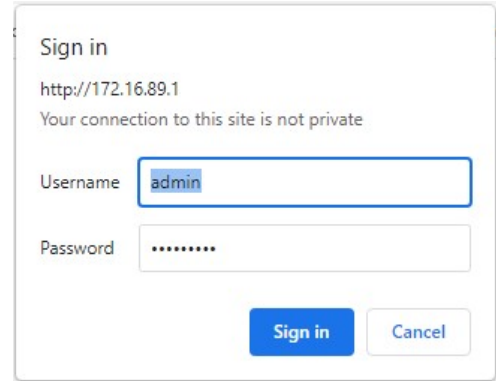

Figure 1: ESTeem Web Page Log-on Screen
2. You will now see the Log-on Menu on Figure 1. To enter the Horizon Home Menu you will need to log into the system with a User Name and Password.